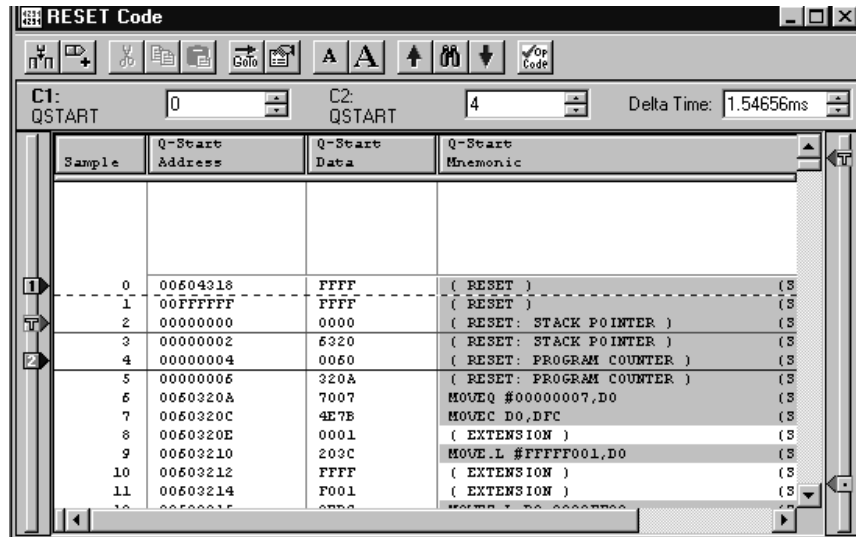

Figure 3–6: Listing window for Exercise 1
1. Open the Listing window labeled RESET Code. The window should contain the disassembled startup code and should look similar to Figure 3–6.